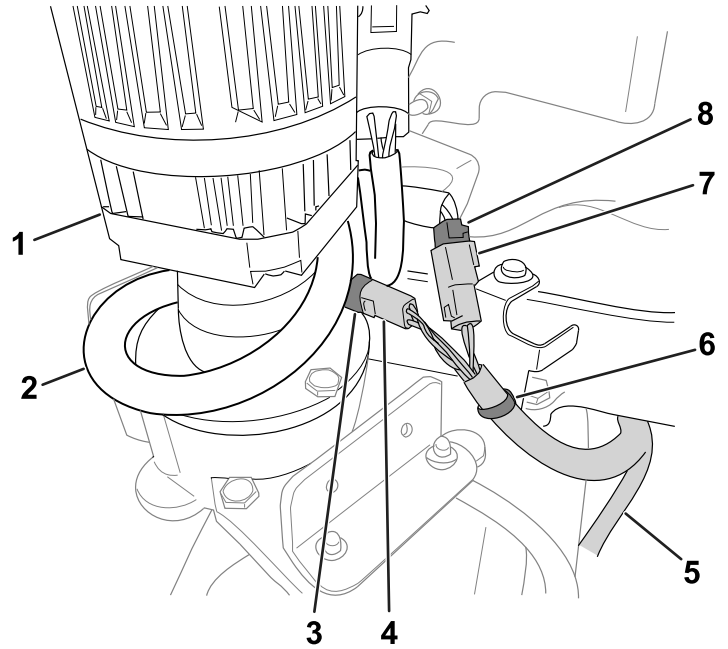

Figure 6
4. Route the remaining kit-wire-harness connectors towards the steering motor (Figure 6)
5. Connect the push-mount fastener on the kit wire harness to the bracket as shown in Figure 6.
6. Connect the kit-wire-harness connectors to the machine-wire-harness connectors (Figure 6):
8. Wrap the extra machine wire harness slack around the steering motor as shown in Figure 6.